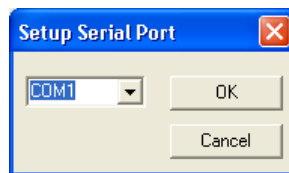

Figure 4 - Setup Serial Port Dialog
1. Choose **Setup** → **Serial Port** from the main menu. The Setup Serial Port Dialog (Figure 4) appears.